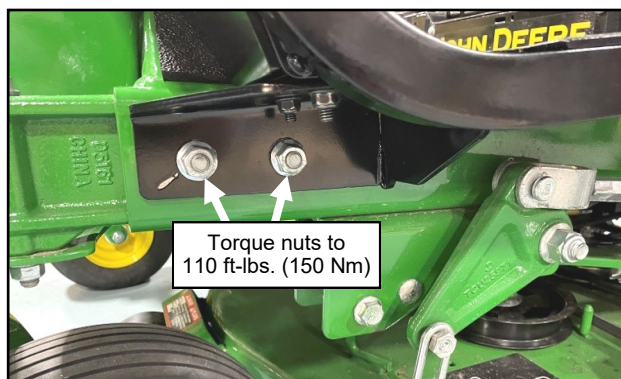

Fig. 2.9 (Tighten Vehicle Frame Bolts, Left)
- 2.9** Fully tighten front mount hardware going into the vehicle's side frame. Torque to 110 ft-lbs. (150 Nm). See Figure 2.9.